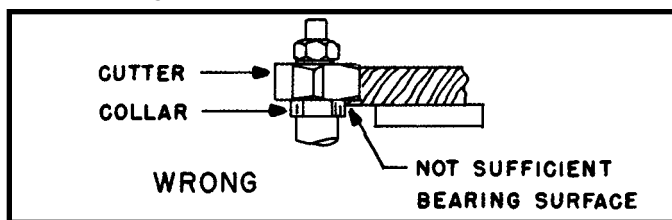
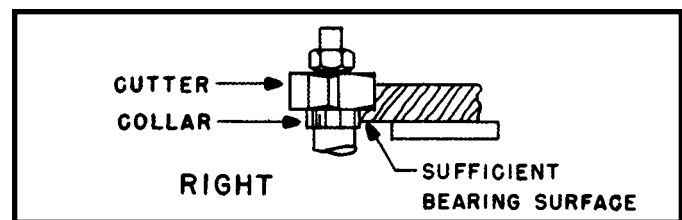
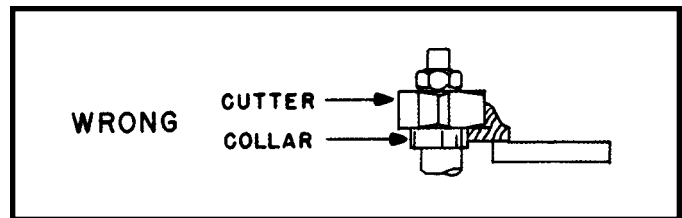

Fig. 27
Fig. 28
Fig. 30
3. A portion of the edge of the work **MUST** remain untouched by the cutters in order for the collar to have sufficient bearing surface. The wrong method is shown in Fig. 27, while Fig. 28 illustrates the right method.
4. The work **MUST** be fairly heavy in proportion to the cut being made (Fig. 28). Under **NO** circumstances should short work of light body be shaped against the collars (Fig. 30).